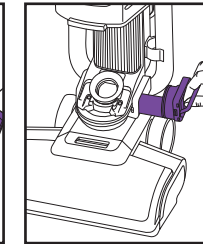

fig. 9
5. With the unit stood upright, remove the cartridge by flipping the handle down (**fig 9.**), then pulling it out sideways.